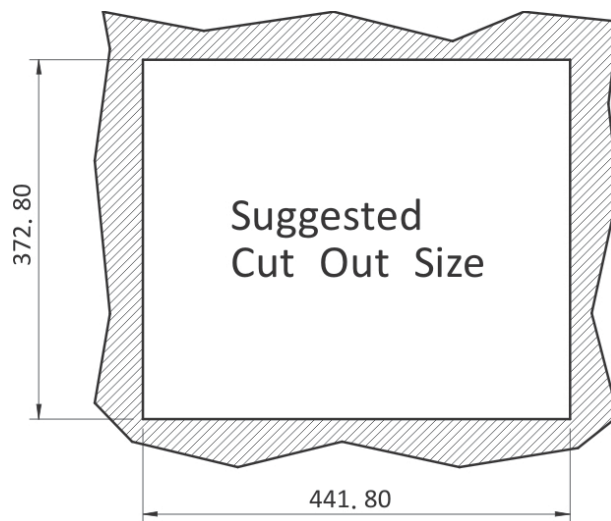
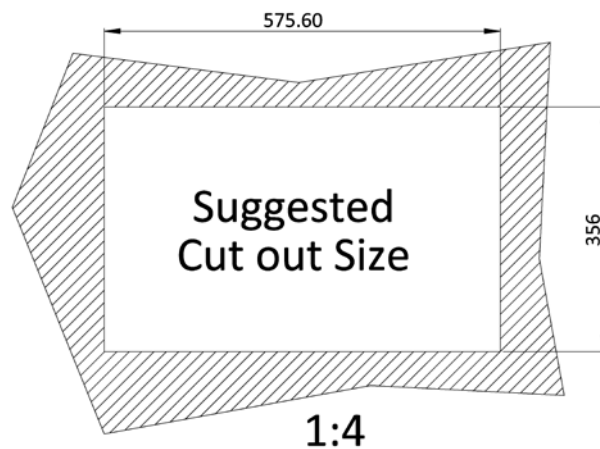

Figure 3-1: S19M Cutout Dimensions
Figure 3-2: S24M Cutout Dimensions
- Step 2:** Cut out a section of the panel that corresponds to the rear panel dimensions of the S19M/S24M. The recommended cutout sizes are shown below (**Figure 3-1** and **Figure 3-2**).